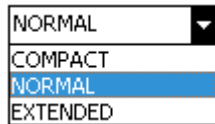

Figure 10
2. Data Format: Sets the operation response data reporting mode for tag-protocol operations, as figure 10. The option is as follows: